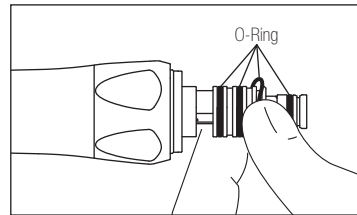

Fig. 10
- 2) Gently remove each O-ring with your thumb. (Fig. 10)